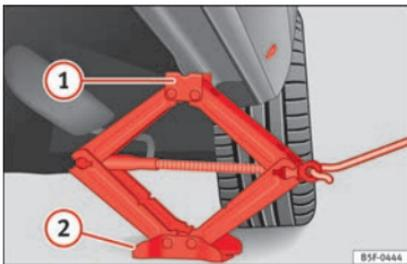

Fig. 187 Strut: mounting the jack on the vehicle.
- Turn the jack*, located below the strut support point, to raise it until tab ① >>> Fig. 187 is below the housing provided.
- Align the jack* so that tab ① “grips” onto the housing provided on the strut and the mobile base ② is resting on the ground. The base plate ② should fall vertically with respect to the support point ①.